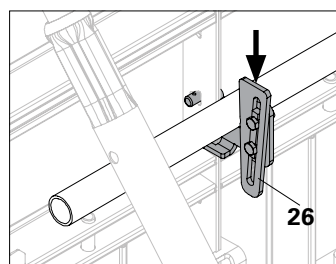

Fig. A4.14a
1. Insert the tube holder HSA (26) into the triangular slots of the panel strut location. (Fig. A4.14a)